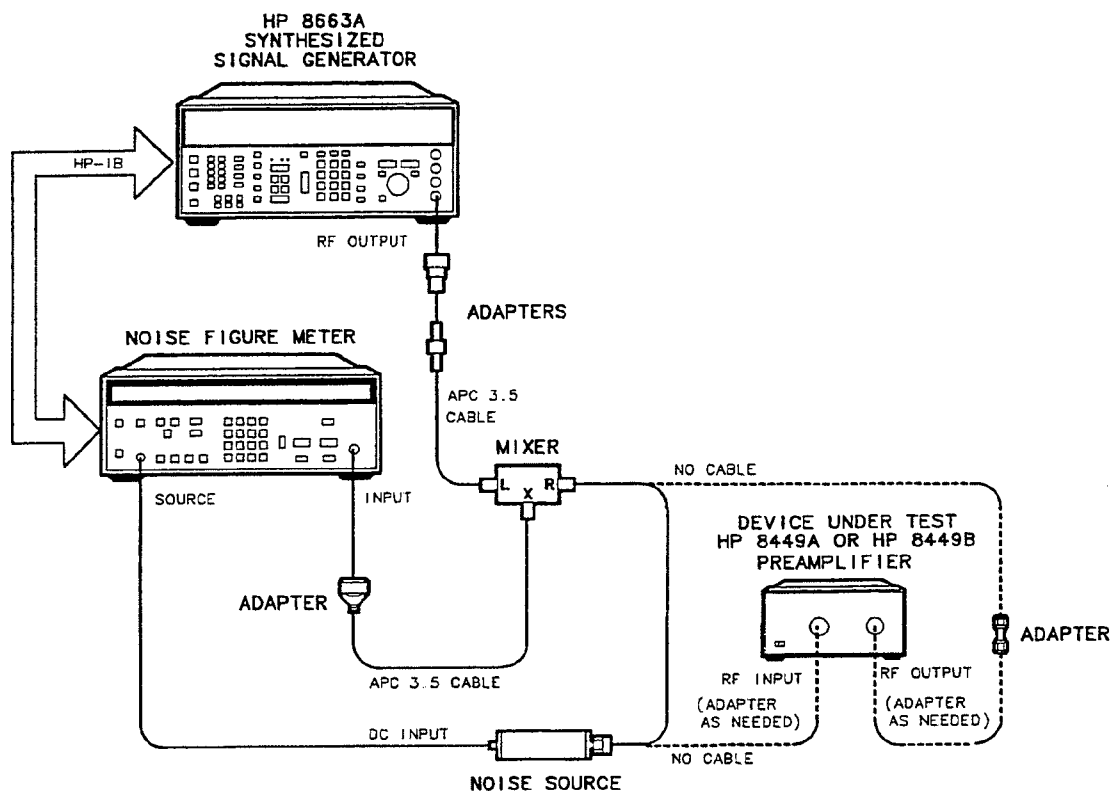

Figure 4-3. Alternate Noise Figure Test Setup for <2.5 GHz
6. When calibration is finished, make the following connections illustrated with dashed lines in Figure 4-3.
1. Connect test equipment indicated by the solid lines in Figure 4-3. Do not connect the HP 8449A or HP 8448B Preamplifier at this time.
This test measures the noise figure of the preamplifier below 2.5 GHz. First, the source and noise figure meter are connected to calibrate the test setup without the preamplifier in the circuit. The preamplifier is then added to the circuit and the noise figure is measured. The test setup is illustrated in Figure 4-3.